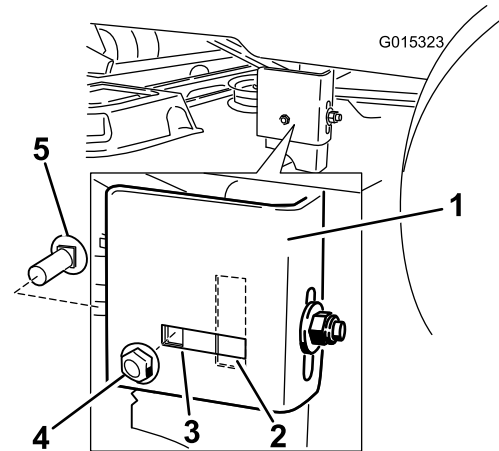

Figure 51
8. If the side carriage bolt is in the fixed position, remove the side carriage bolt and side locking nut from the fixed position and install it into the slotted adjustment position (Figure 51).